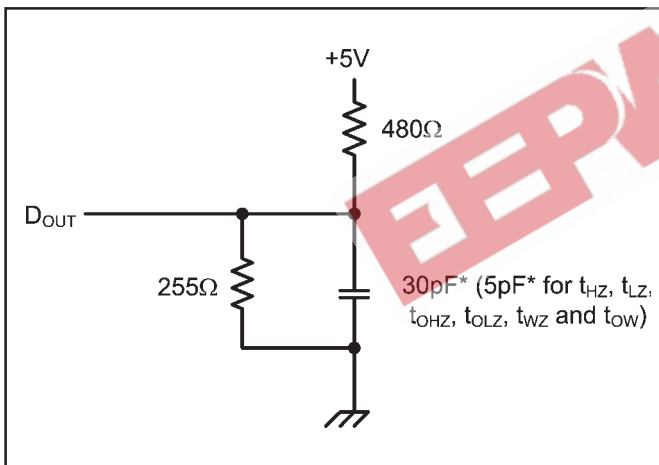

Figure 1. Output Load
9. Transition is measured  $\pm 200\text{mV}$  from steady state voltage prior to change, with loading as specified in Figure 1.
Output Load	See Figures 1 and 2